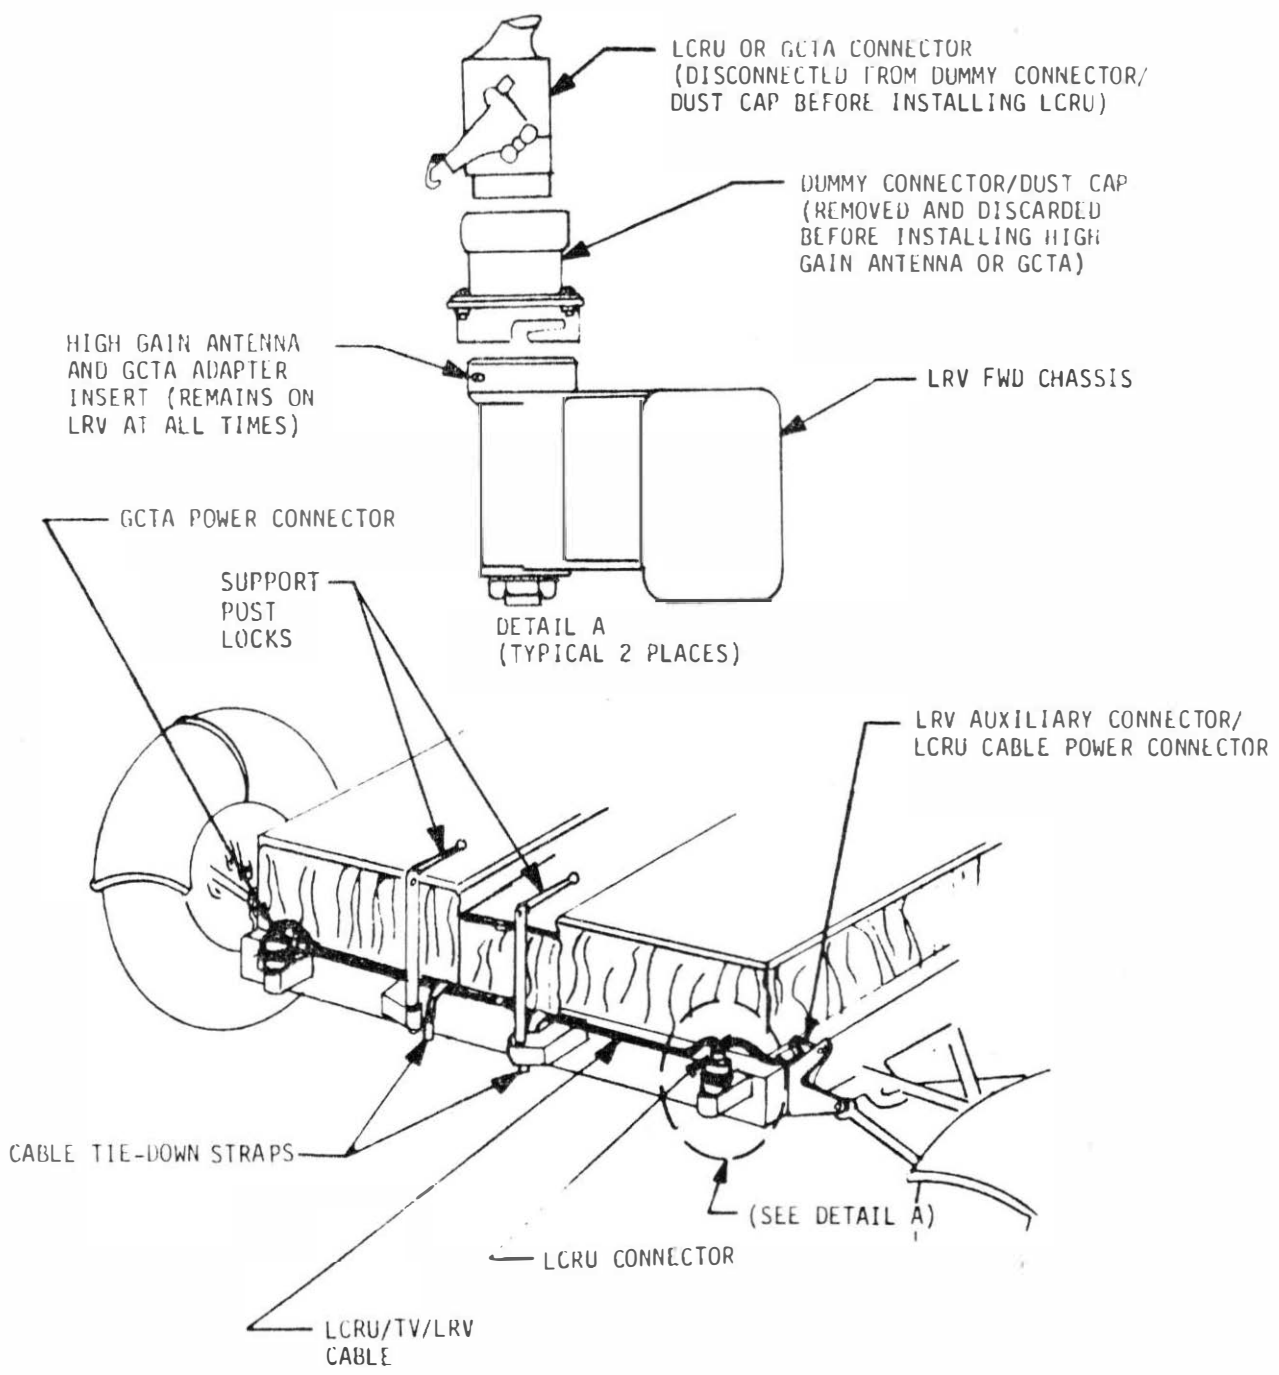

FIGURE 2-12 LCRU/TV/LRV CABLE STOWAGE
a. Place LCRU support post locks in the up position.	Figure 2-12. LRV arrives on lunar surface with LCRU support posts installed in LRV support tubes on forward chassis and with LRV/LCRU power cable connected to LRV auxiliary connector.
b. Disconnect GCTA connector from LRV dummy connectors.	Figure 2-12.